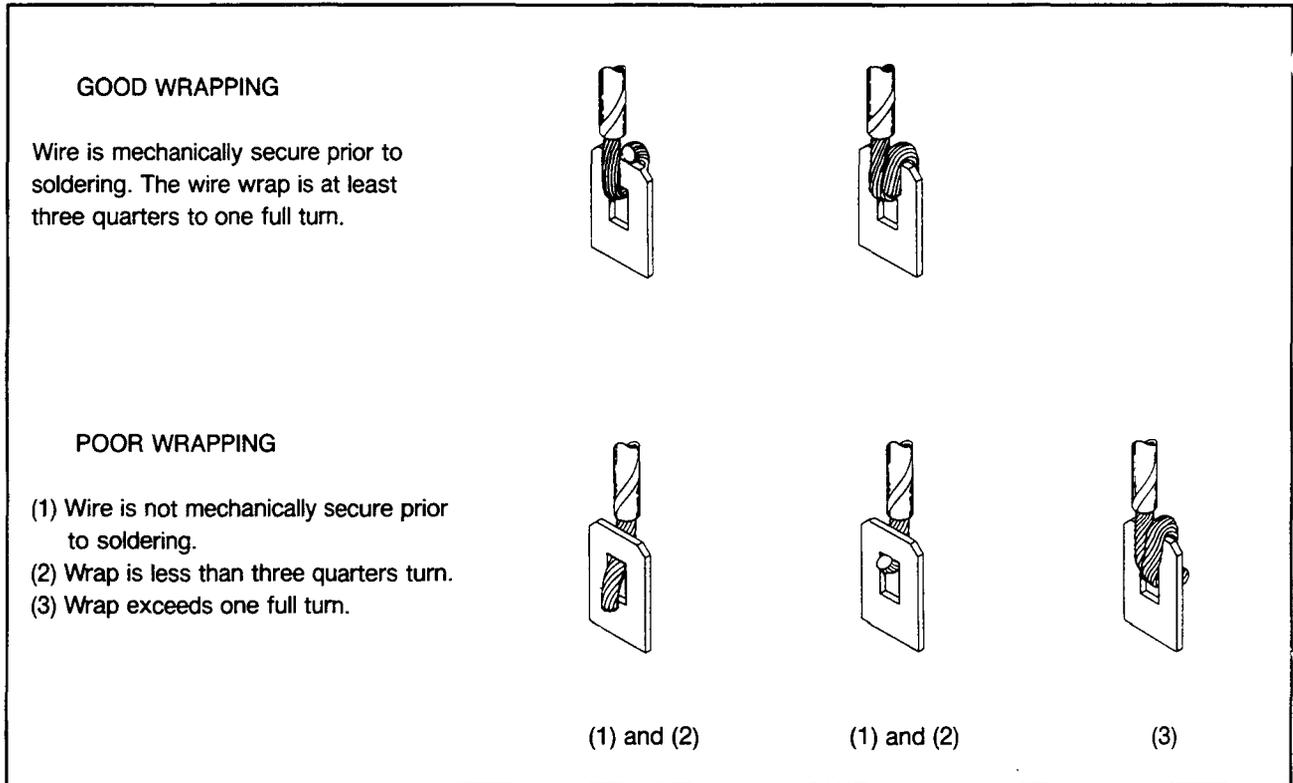

Figure 7-5. Ground Wire Wrapping
5. Inspect the soldered wire connection on both ends of the ground wire and compare the wire wrapping to figure 7-5. One end of the wire goes to the chassis ground lug and the other end to the socket ground connection on the rear-panel line socket.
8. Wrap and solder one end of the stripped ground wire onto a new solder lug (HP 0360-0036). Refer to figure 7-5 for wrapping details.